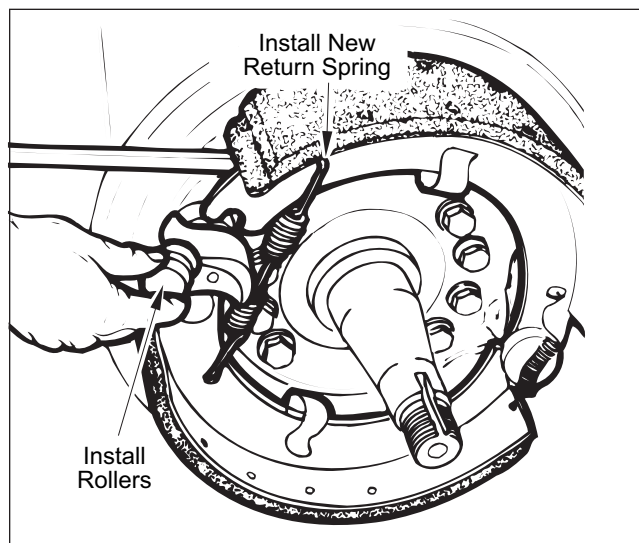

Figure 59. Shoe Return Spring and Roller Installation
8. Hook end of a new shoe return spring in lower shoe web hole. Using a screwdriver for assistance, stretch shoe return spring to hook it in upper shoe web hole. Refer to Figure 59.